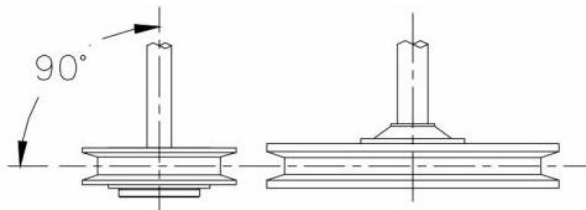

Figure 1
4. To align belt, lay a straight edge against the face of the flywheel touching the rim at two places. (Figure 1)